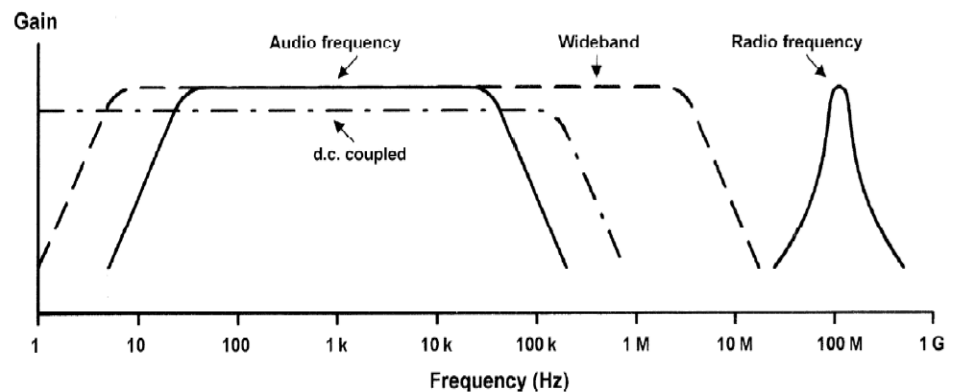

Fig. 1.16: Frequency response and bandwidth (output power plotted against frequency)
- Frequency response characteristics for various types of amplifier are shown in Fig. 1.16.